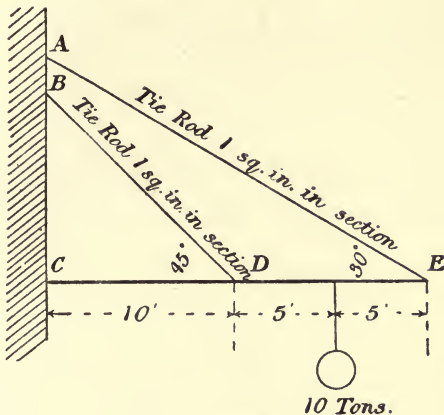

Fig. 4.
6. In Fig. 4  $CDE$  is a beam hinged at its extremity  $C$  and supported horizontally by the tie rods  $AE$  and  $BD$  attached to